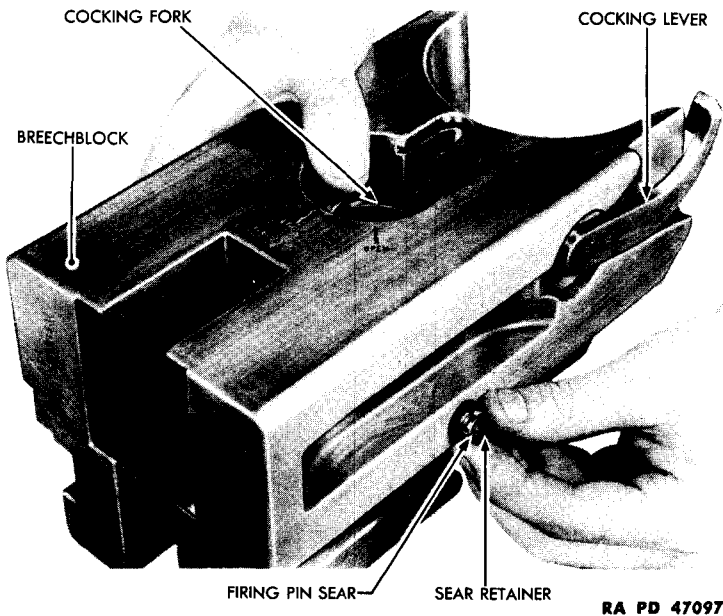
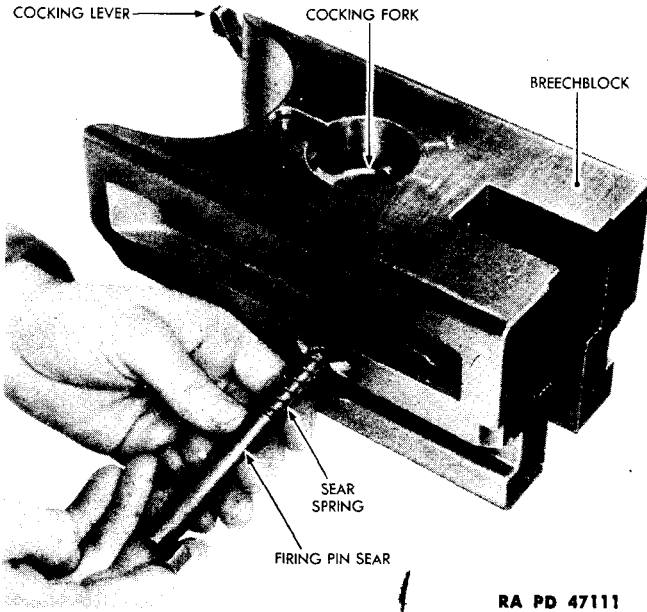

Figure 28 – Removal of Sear Retainer
Figure 29 – Removal of Sear and Sear Spring
c. Remove Sear. Press sear inward and remove retainer from sear (fig. 28). Then pull sear and spring from breechblock (figs. 23 and 29).
e. Install Sear. Place spring on sear (fig. 29). Insert spring and sear into breechblock. Push sear into breechblock until retainer end of sear extends out opposite side of breechblock. Then install retainer on sear (fig. 28).
(1) Press sear inward to allow lugs on percussion mechanism to clear lug on sear.